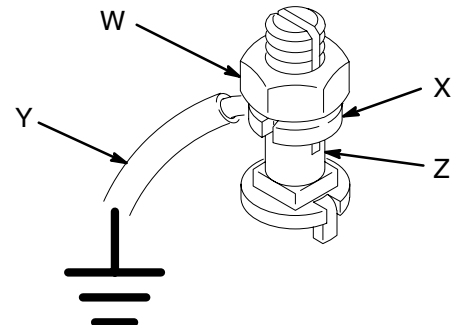

Fig. 1
1. *Pump:* use the ground wire and clamp (supplied). See Fig. 1. Loosen the grounding lug locknut (W) and washer (X). Insert one end of the ground wire (Y) into the slot in lug (Z) and tighten the locknut securely. Connect the other end of the wire to a true earth ground.